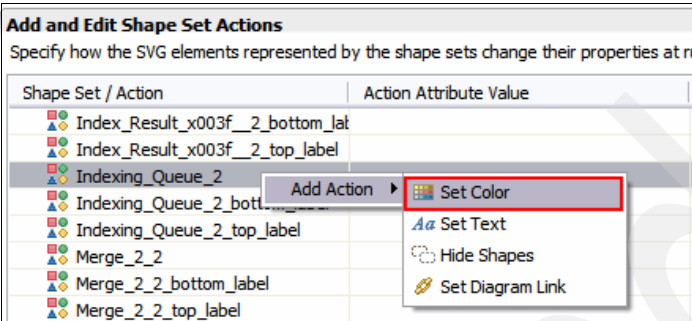

Figure 7-105 Selecting the option to add and edit the shape set actions
2. Right-click the **Indexing_Queue_2** shape set in the table and click **Add Action** → **Set Color** (Figure 7-105).